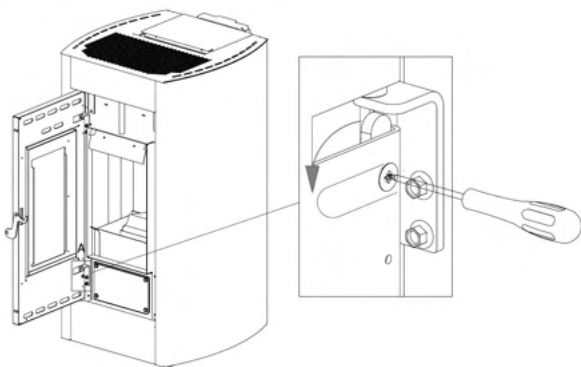

Fig. 32 - Remove screws
- Use a screwdriver to rotate the lever in the direction of the arrow (see Fig. 32).